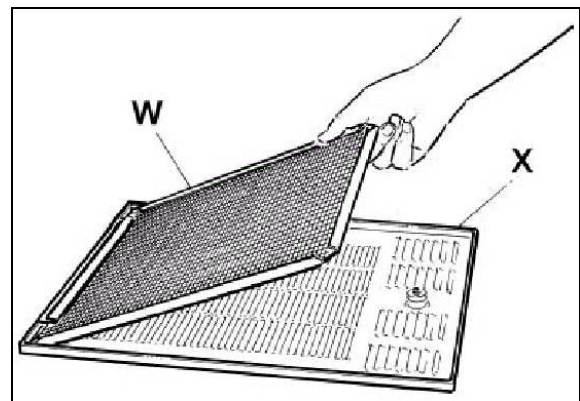

Fig. 30
- Remove the panel and the filter and clean it properly with water or vacuum cleaner (see figure 30).